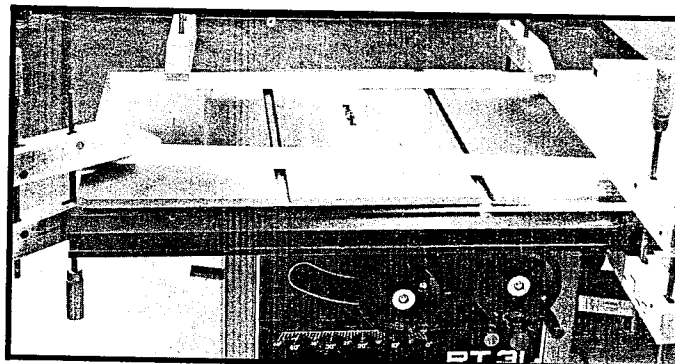

Fig. 7
5. Secure the blank insert in the saw table using lumber as hold-downs clamped in four places, similar to the method used in Fig. 7.
6. Apply electrical power to the saw. Raise the arbor slowly and allow the blade to cut its way thru the insert from below until the dado cutter is at its desired height, as shown in Figs. 7 & 8. **DO NOT FORCE THE CUT.** Additional inserts can be cut similar to this method to accommodate varying cutting depths and widths of cutters.